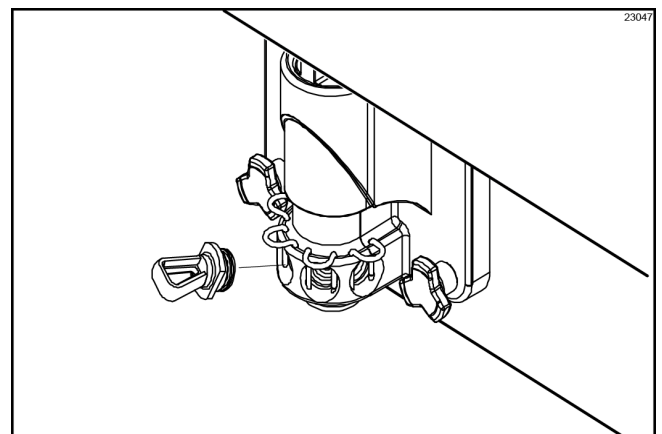

Figure-59
15. Raise each retainer pin. Install the syrup hole plugs in the syrup ports in the freezer door. Lower the retainer pins to secure the hole plugs in the door. (See Figure-59.)